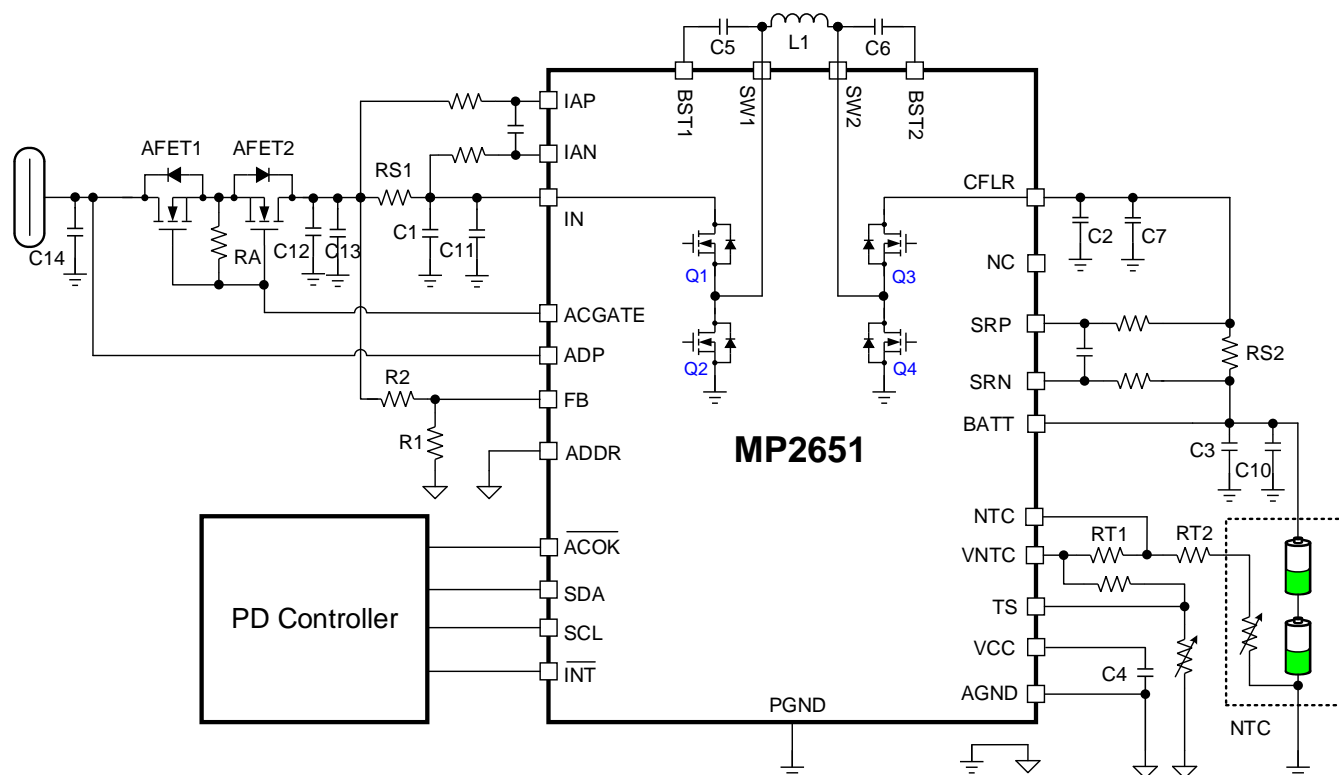

**Figure 18: Typical Application Circuit without Input Block FETs**
Figure 18 on page 58 shows the detailed application schematic. The typical performance and circuit waveforms are shown in the Typical Performance Characteristics section on page 17. For more device applications, refer to the related evaluation board datasheet.
**Table 5: Key BOM for Figure 18**